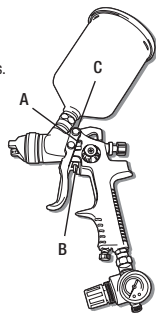

Fig. 1
- C. trigger pivot pointSee Fig. 1 for Location of Above Points.